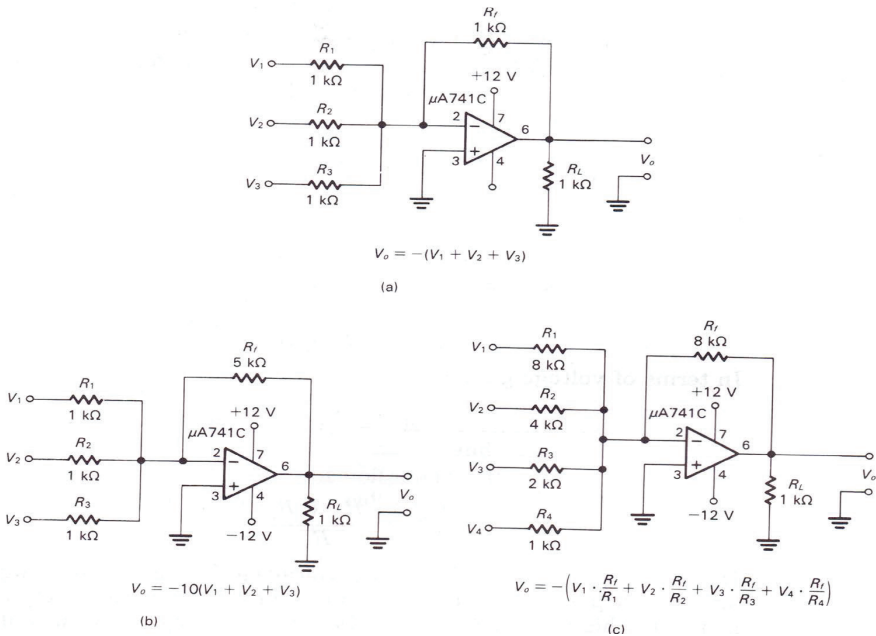

Figure 16.5 Summing amplifiers. (a) Standard adder. (b) Adder with gain. (c) Scaling adder.
Figure 16.5 shows three variations of the **summing circuit**. **Figure 16.5(a)** shows the standard adding function. This particular circuit simply adds the input voltages and produces the sum at the output. All resistors must be of an equal value for the circuit to respond correctly.
The op-amp of **Figure 16.5(b)** achieves both **summing** and **gain**. The input resistors are of the same value. The **feedback resistor** is a multiple of the input resistors. The sum of V_1 , V_2 , and V_3 , in this case, is multiplied by a factor of 5. The formula for this mathematical operation is
Refer to **Figure 16.5(b)**. Calculate V_0 .
Refer to **Figure 16.5(b)**. Calculate V_0 with the following circuit values: $R_f = 10 \text{ k}\Omega$, $V_1 = 6 \text{ V}$, $V_2 = -4 \text{ V}$, $V_3 = 2 \text{ V}$, $R_1 = 1 \text{ k}\Omega$, $R_2 = 1 \text{ k}\Omega$, and $R_3 = 1 \text{ k}\Omega$.
Figure 16.5(c) is a **scaling adder**. The input to this circuit sees different weighting factors in the input resistors. An input of $+1 \text{ V}$ applied to V_1 produces a 1-V output. In the same manner, V_2 is 2 V , V_3 is 4 V , and V_4 is 8 V . This means that the inputs are scaled down by the powers of 2. The resulting output of V_4 carries eight times more weight than V_1 . Scaling adders are frequently used in digital-to-analog converter functions. The formula for determining the output of a scaled adder notes the difference in the weighting factor.
Refer to **Figure 16.5(c)**. Calculate V_0 for this four input summing op-amp circuit.
Refer to **Figure 16.5(c)**. Change the value of R_f to 2000 k Ω and calculate the value of V_{out} .
12. Refer to the summing amplifier of **Figure 16.5(a)**. If V_1 equals +2 V, V_2 equals +3 V, and V_3 equals –1 V, V_{out} is _____.